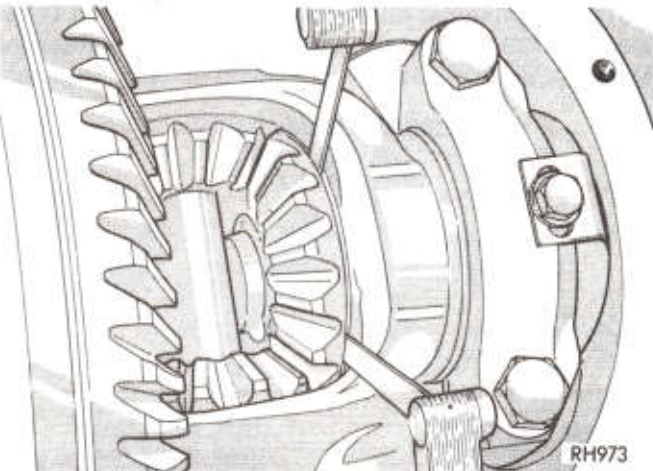

Fig. 32—Insert a Matched Pair of Thickness Gauges to Determine Clearance
(1) With the axle shaft and "C" locks in place, measure the clearances behind each side gear by inserting a matched pair of gauges inserted on opposite sides of the hub (Fig. 32).
(2) If you measure .005" clearance, or less, see if the axle shaft on that side is contacting the pinion shaft. Do this with the gauges still in place behind the side gear. If the axle shaft does not contact the pinion shaft, the side gear fit is acceptable on that side. Repeat for other side.
(3) If you measured more than .005" clearance in step 1 and the axle shaft does not contact the differential pinion shaft, then record the side gear clearance. Remove the thrust washer and measure its thickness with a micrometer. Add the washer thickness to the side gear clearance you recorded. The sum of the two numbers will tell you which replacement washer to install. For example, if you find .007" side gear clearance, and measure thrust washer thickness at